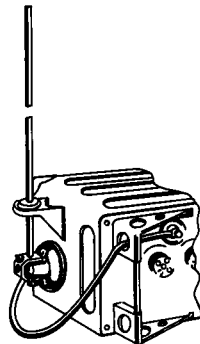

Fig. 6 Aerial Base
- (a) The batteries to the power input plug (9) on the W.S. 62, using the connector provided.
- (b) Plug the rod aerial (if used) into the aerial base (8) and secure in position by means of the knurled screw. (See Fig. 6).
- (c) Connect the aerial base to the aerial terminal (13) if rod aeriels are used. Connect the end of the aerial to the aerial terminal (13) when the 100 ft long wire aerial is used.
- (d) Into each of the output sockets (7) plug in a headset and microphone assembly No. 10 and/or a morse key.